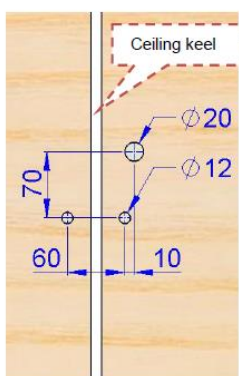
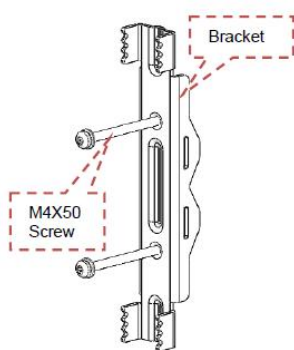
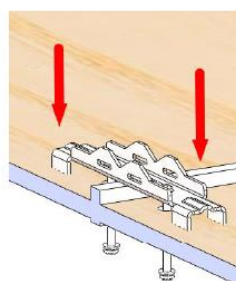
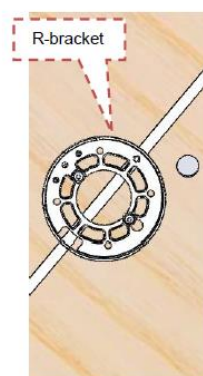

Figure 3-18
Figure 3-19
Figure 3-20
Figure 3-21
**Step 1.** Select an area for installation near ceiling keel. Drill three holes per (Figure 3-18). Route the screw(M4x50) thru the fastener (Figure 3-19). And the screw from top to bottom thru ceiling mounting hole (Figure 3-20). Place bracket over the screw (M4X50), Adjust the bracket to align the edge of the backplane with the edge of the ceiling. And then use torque screwdriver to tighten the screw to the 1.4N.m (Figure 3-21).